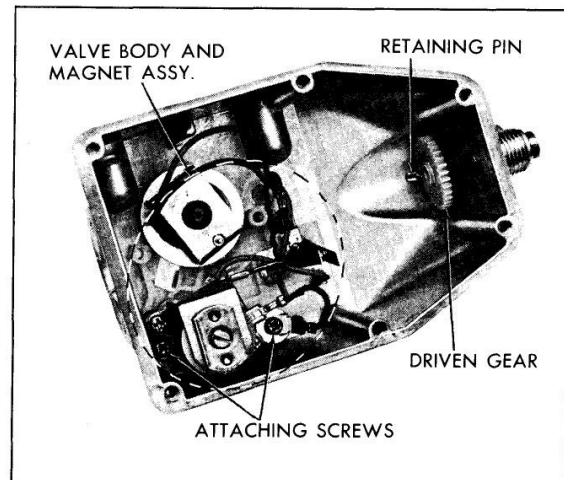

Fig. 15-17 Valve Body and Magnet Assembly Removal
6. Remove four screws (2 internal, 2 external) holding the valve body and magnet assembly. Remove valve body and magnet assembly from the regulator housing. (Fig. 15-17).